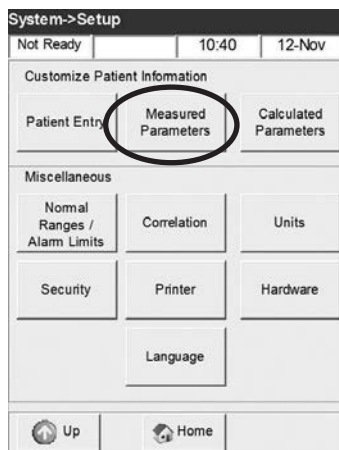

Fig. 3-10 Measured Parameters
2. In the **<System Setup>** menu, press **<Measured Parameters>** (Fig. 3-10).